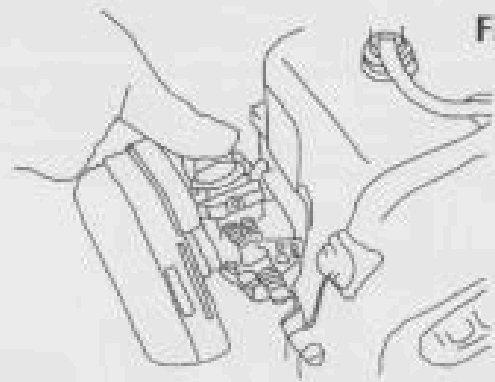

Fig. 1
- 4.1 Push the front valve several times until securely streaming out oil. (Fig. 1)